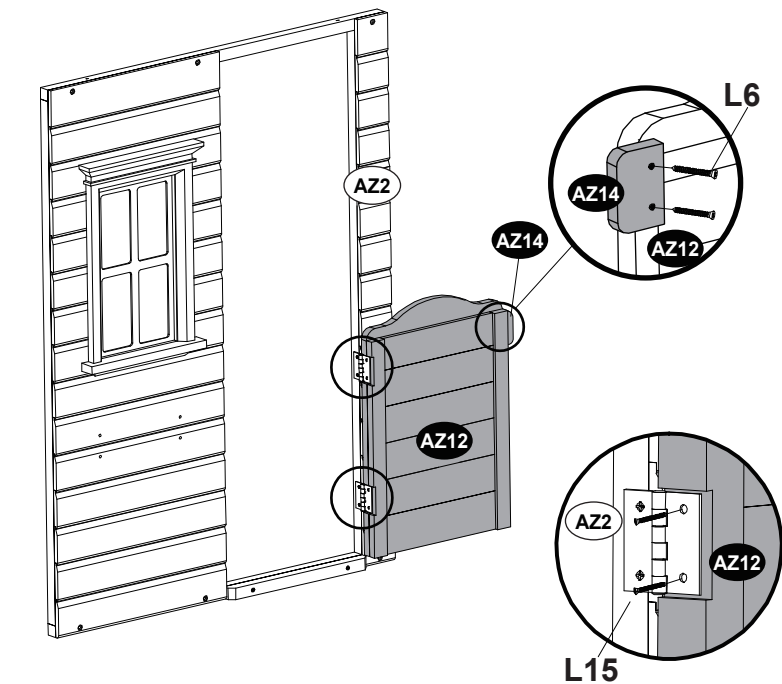

FIGURE 5
- Connect AZ12 to AZ2 using L15 (4pcs) as shown in Figure 5.